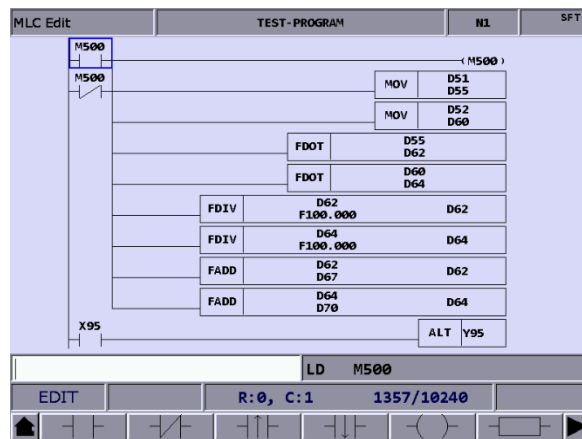

Figure 9.3.5.1
You can use the LD, LDI, LDP, LDF, OUT, APP, —, and | functions to create the corresponding commands. See Figure 9.3.5.1 for the MLC screen.
- (1) Press **DGN** to enter the DGN screen.
- (2) Press **MLC** to display the function bar in the second layer.
- (3) Press **EDITOR** to enter the MLC Edit screen as shown in Figure 9.3.5.1.
- (4) Move the cursor to the field to be edited.
- (5) Enter the device name and press **LD** to complete creating the command.